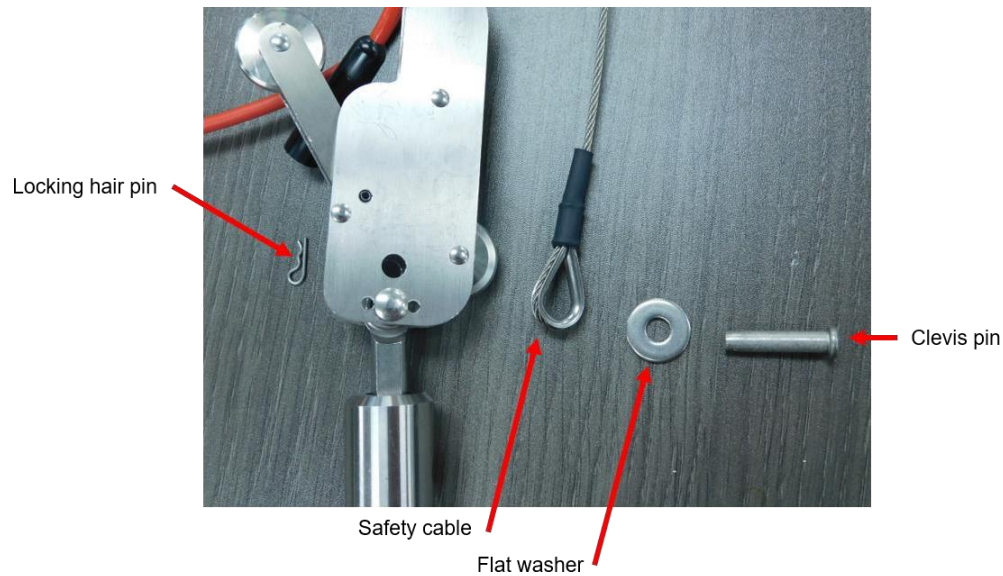

Figure 5: Safety Cable and Hardware
6. Attach a safety line to the bottom wheel assembly (see Figure 5).